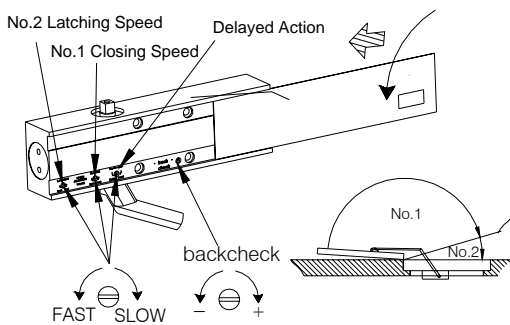

Fig. 6
7. Check for correct closing & latching speeds and adjust if necessary. Adjust backcheck as required. **(See Fig.6)**
8. Stick easi-exit logo onto indent of slide plate and refit to door closer. **(See Fig. 6)**